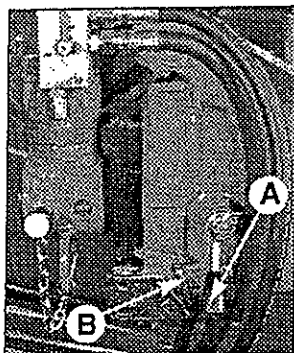
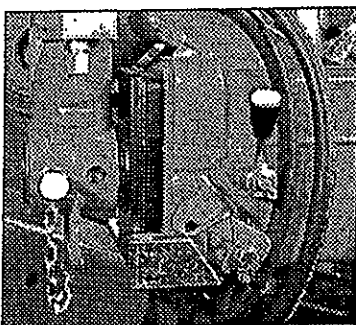

fig. 19
fig. 20
- Release the locking devices and stops of the outrigger support positioning the levers **A** and **B** from the position indicated on the fig. 19 to the one indicated on the fig. 20